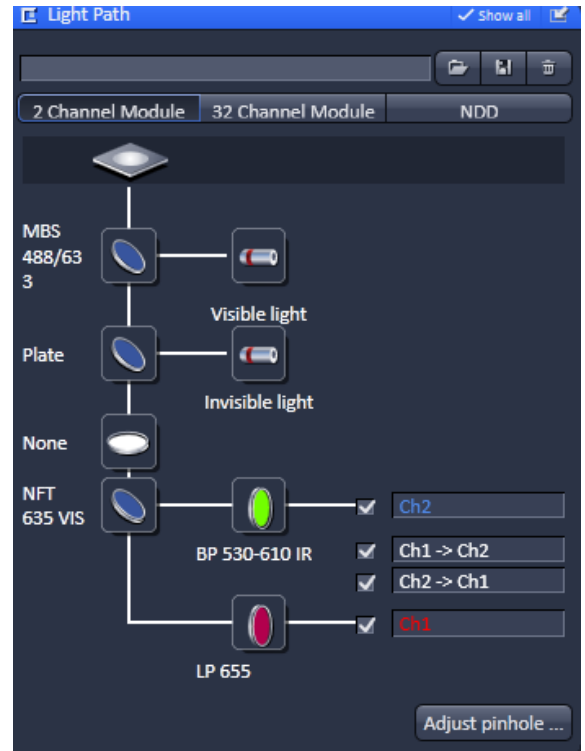

Fig. 230 System Configuration tab - Light Path tool opened for the ConfoCor 3 on LSM 710
- 1.) ConfoCor 3 with 2 APDs on LSM 710 (Fig. 230)